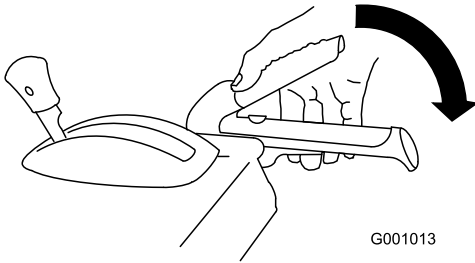

Figure 32
1. To engage the auger/impeller drive, squeeze the right hand (auger/impeller) lever to the handgrip (Figure 32).